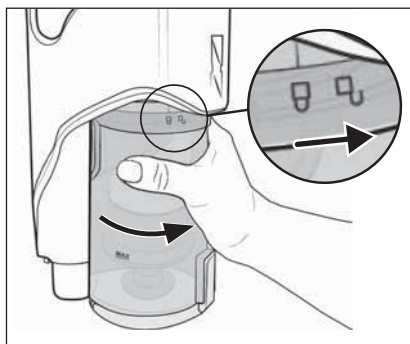

Fig. 28
- 8) Put the dirt container **7** back into the appliance and turn it in the direction of the symbol  (close) until it is firmly seated in the appliance (see Fig. 28).